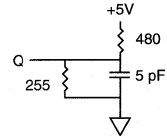

Fig. 2 OUTPUT LOAD EQUIVALENT
- t_{HZCE}, t_{HZOE} and t_{HZWE} are specified with CL = 5pF as in Fig. 2. Transition is measured ±500mV from steady state voltage.